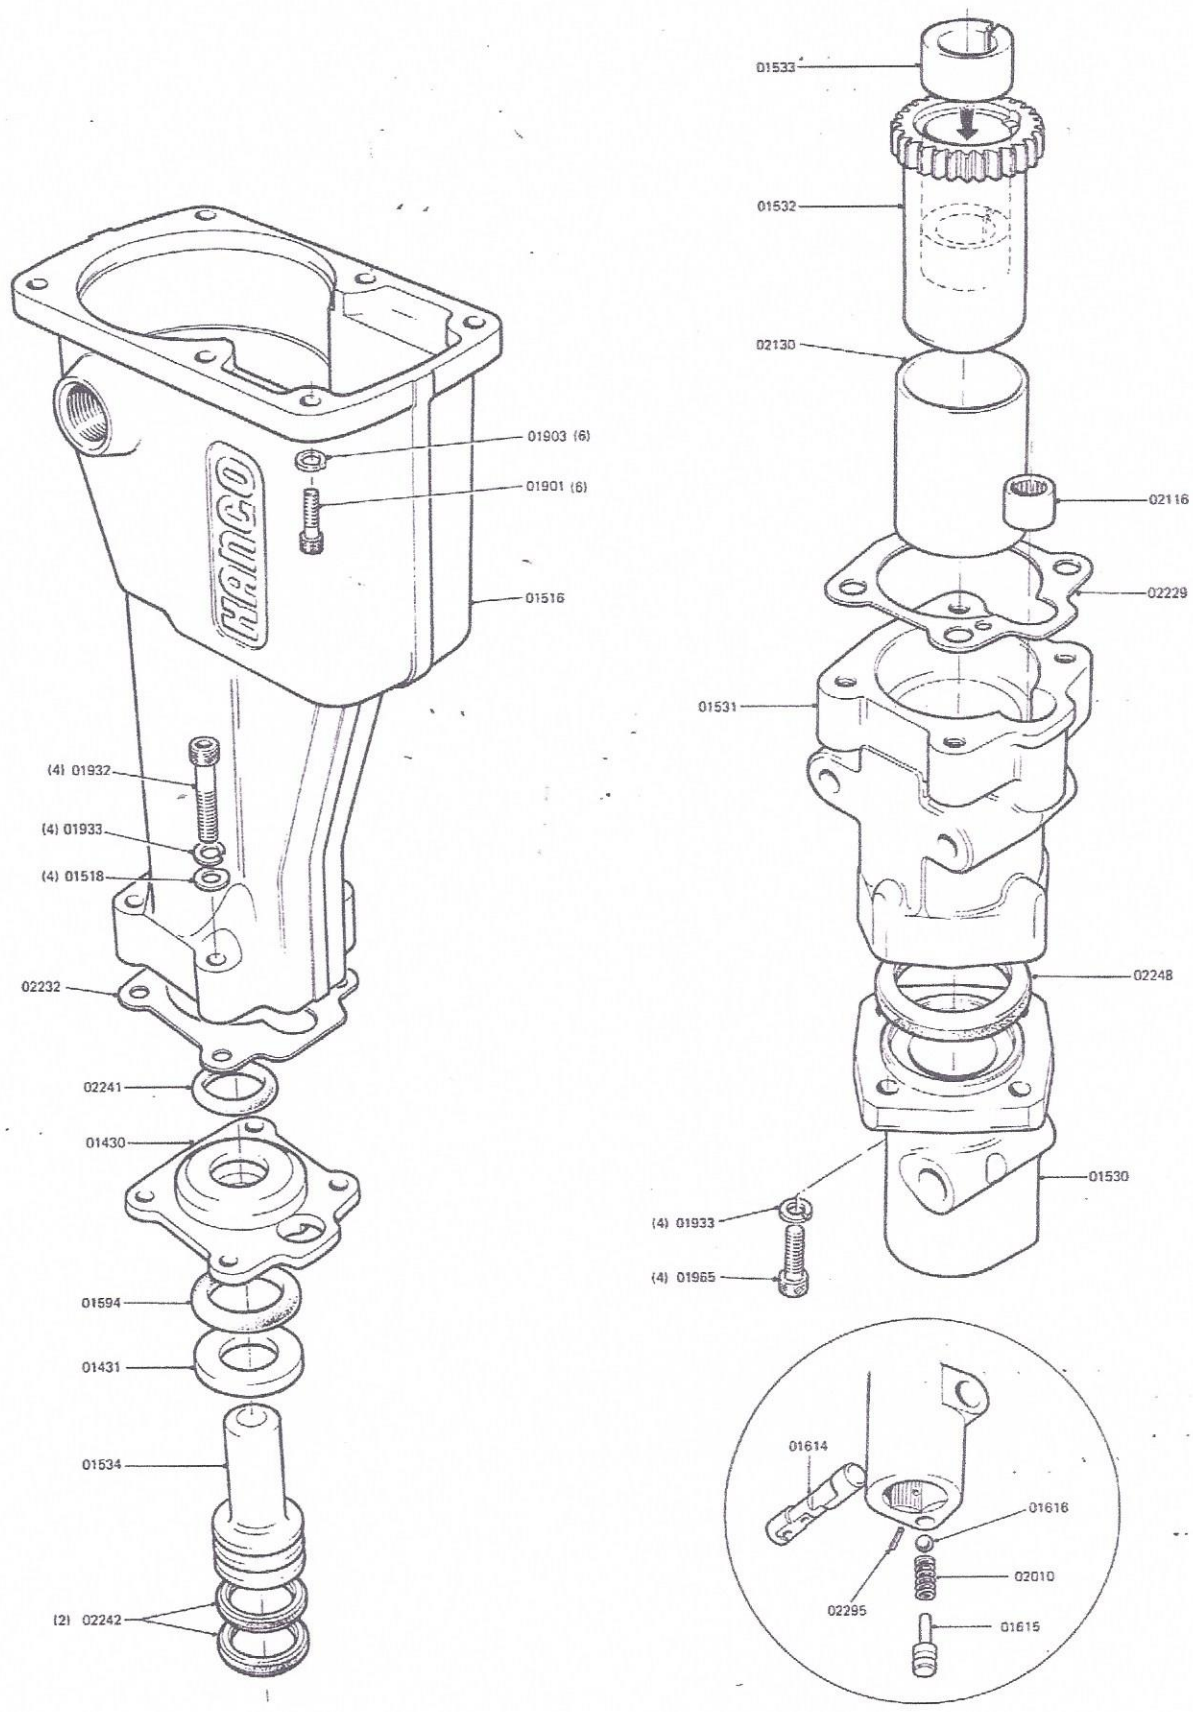

Figure 17 Hammer Casing and Transmitter (Type 950 only)
19.5 Hammer Casing and Transmitter, Type 950 (Illustrated in Figure 17)